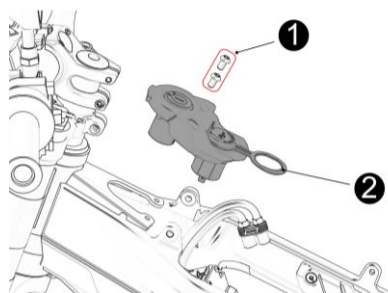

Fig 42
11.13 Dismount US and electric control lock combination (see Fig 42)